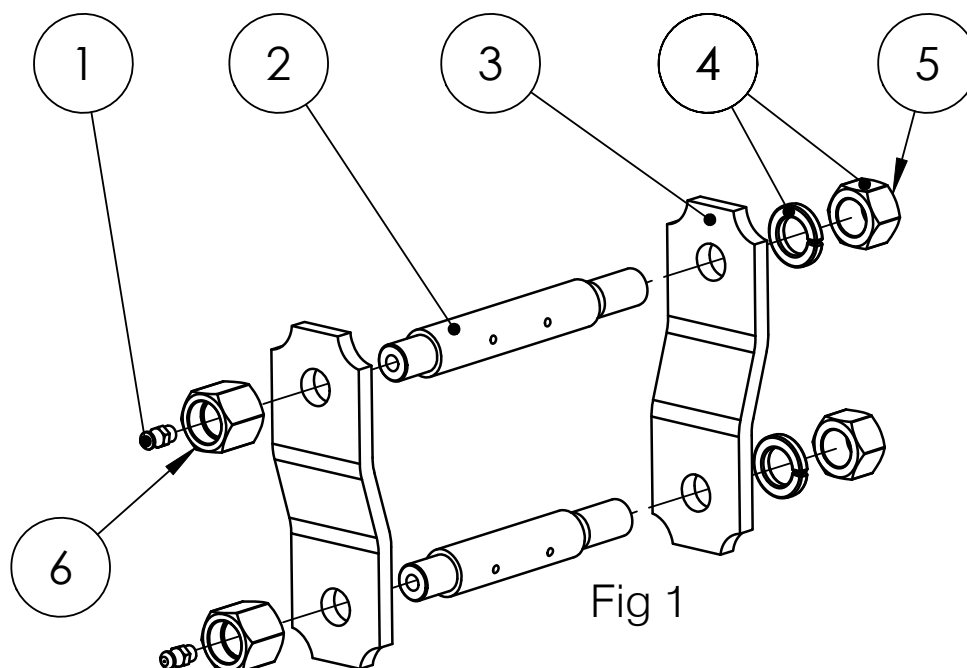

Fig 1
Refer Fig 1.
3. Add first spacer plate over stud (See Fig 1).